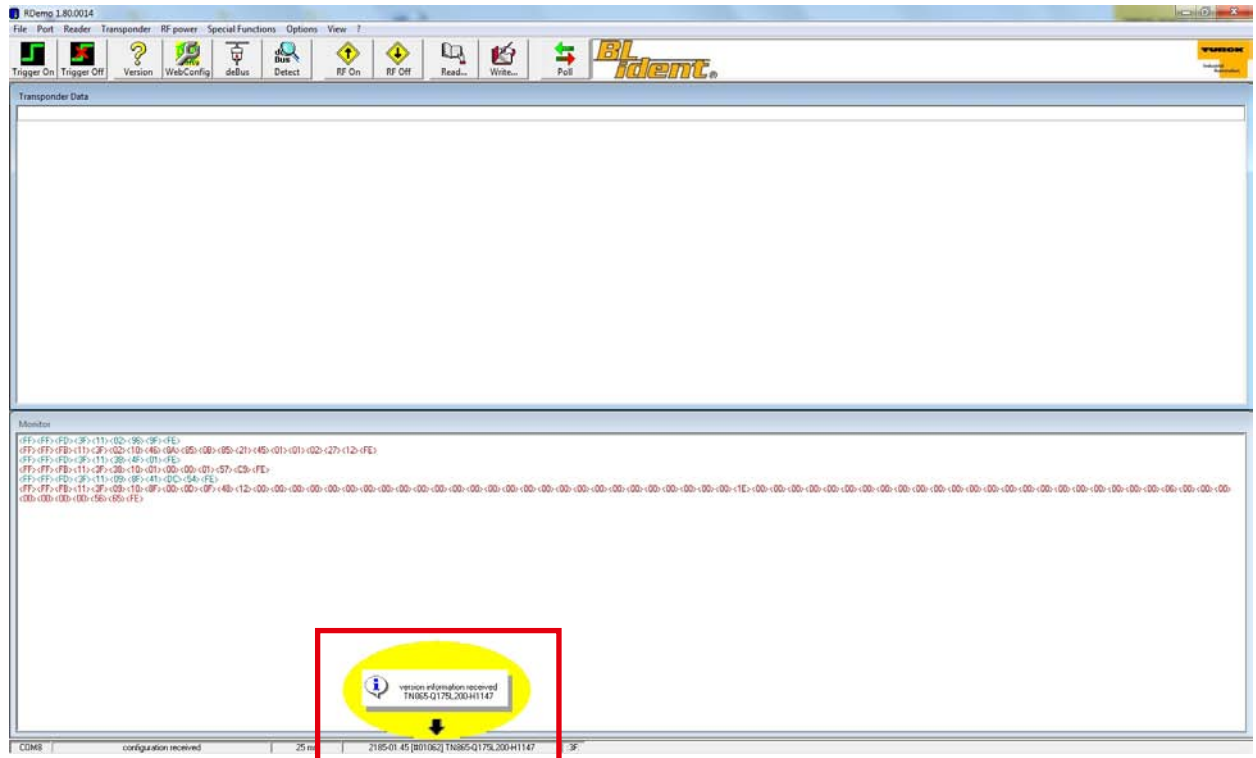

Fig. 39: "version information received" message
- ➔ The “version information received” message is displayed (see Fig. 39).